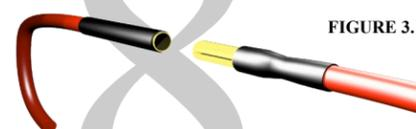

FIGURE 3.
3) Choose a wiring method for the motor and battery leads. Direct wiring uses no plugs and provides the best connection between the motor and the ESC. You can use Tekin 5.5mm Hi-Power bullet connectors (TT3055, Fig. 3.) for easy motor removal. Battery connector choice is up to you; use the female plug on the battery and the male on the ESC and double check the polarity.